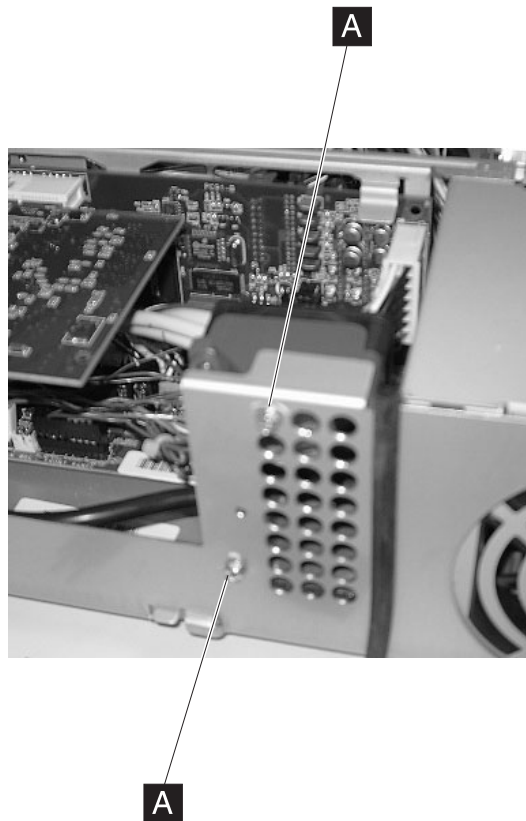

Figure 26. Exhaust fan (Models 742, and 782 only)
3. Locate and remove the two screws (see **A** in Figure 26) holding the exhaust fan in the housing.